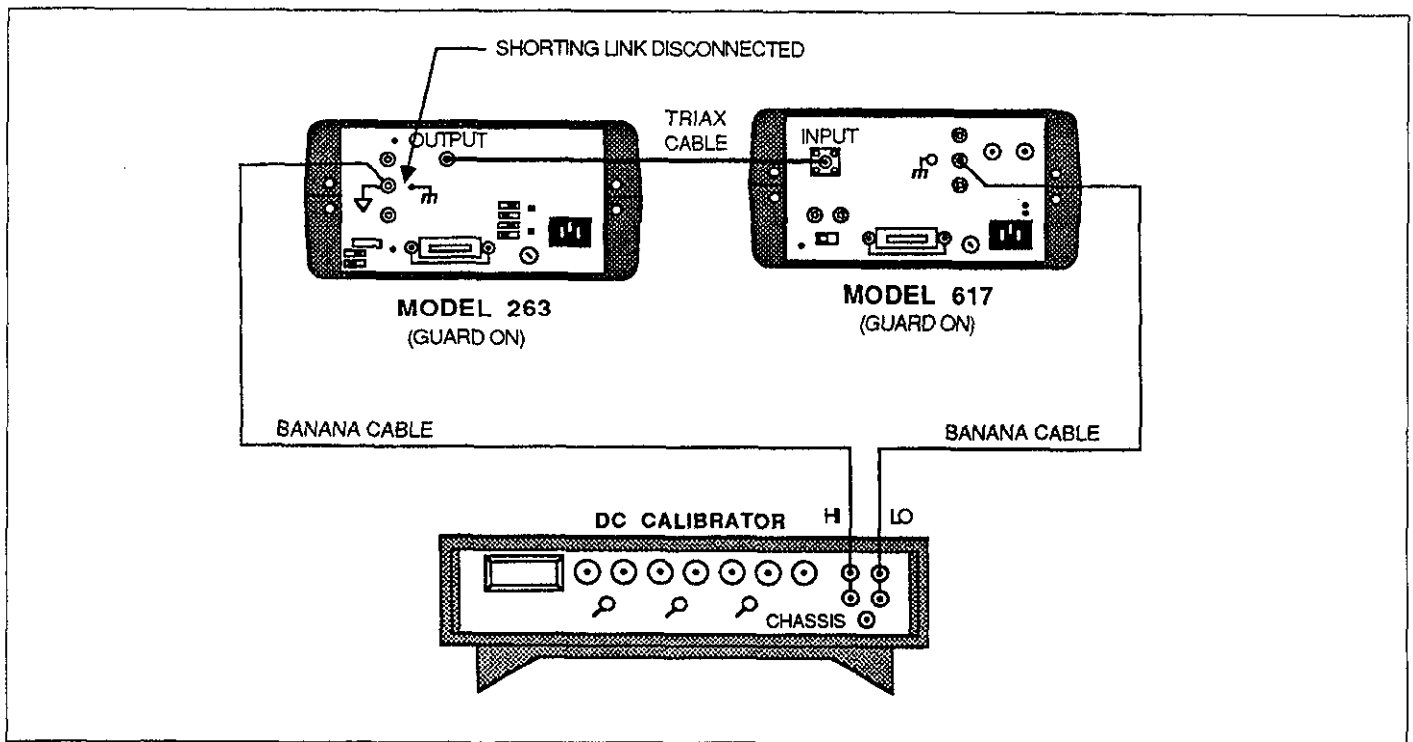

Figure 5. Input Impedance Verification Setup
1. Connect the DC calibrator, Model 263 and the Model 617 as shown in Figure 5.